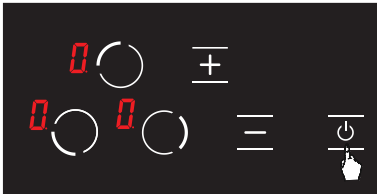

Figure 11
1. **⏻** Turn the stove on by pressing the button. (See Fig. 11)